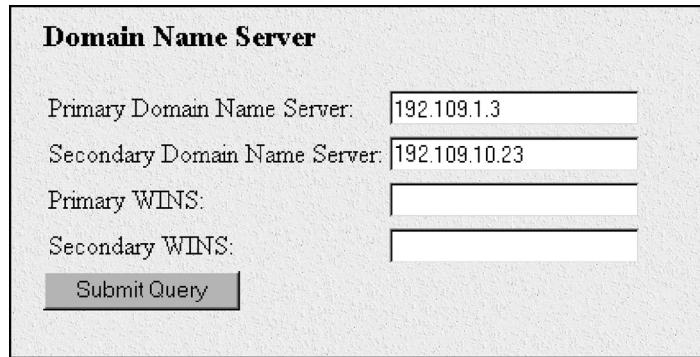

Figure 30. Modify Dial-In window, Domain Name Server section
5. Scroll down to the Domain Name Server section of the Modify Dial-In window (see figure 30).